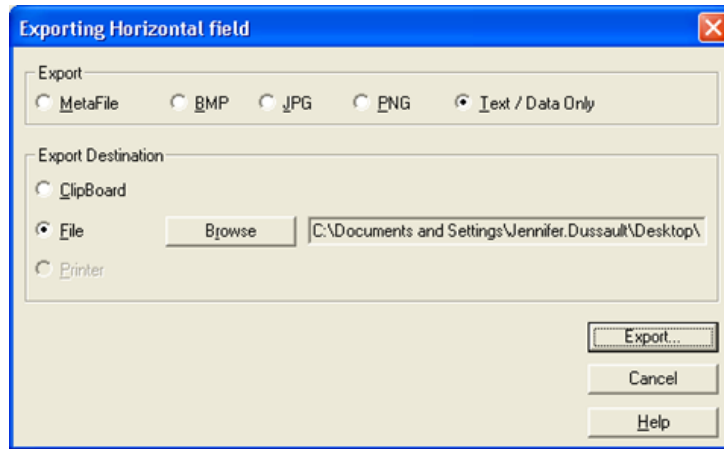

Figure 19: Save Aquapro Calibration Data
4. Click *Export* (Figure 19)
UPDATE Figure 19 ABOVE and 20 BELOW After Next Deployment